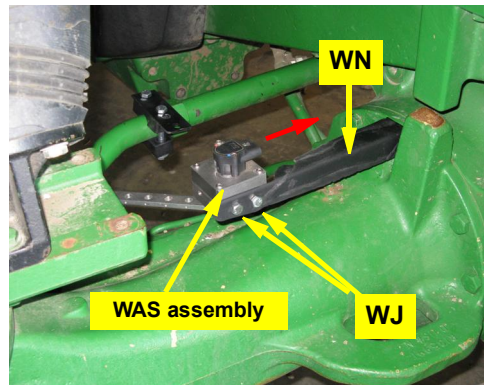

Figure 2c: Installed WAS assembly
- c. Use the provided hardware **WJ** to attach the WAS assembly to the bracket **WN**. Make sure the WAS connector is facing towards the tractor centerline (Figure 2c).